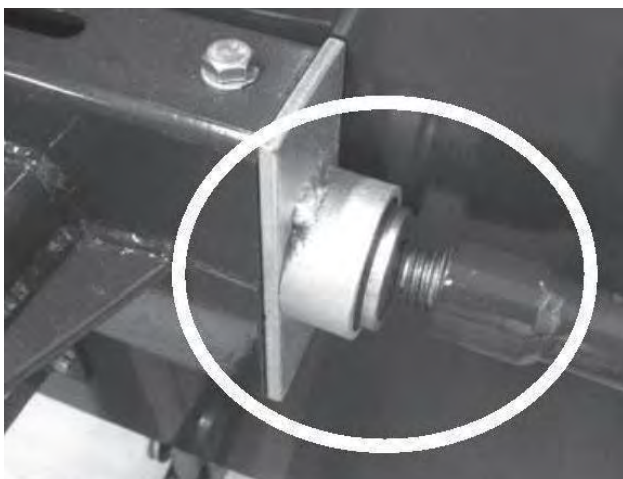

Fig.5-22: Lubricating grease
14. Before use, apply grease to the threads of the blade tensioning T-handle and to the flat of the washer against which it rests (Fig. 5-22). Proper blade tension is achieved when the blade does not flex more than 1/8" - 1/4" total up/down.